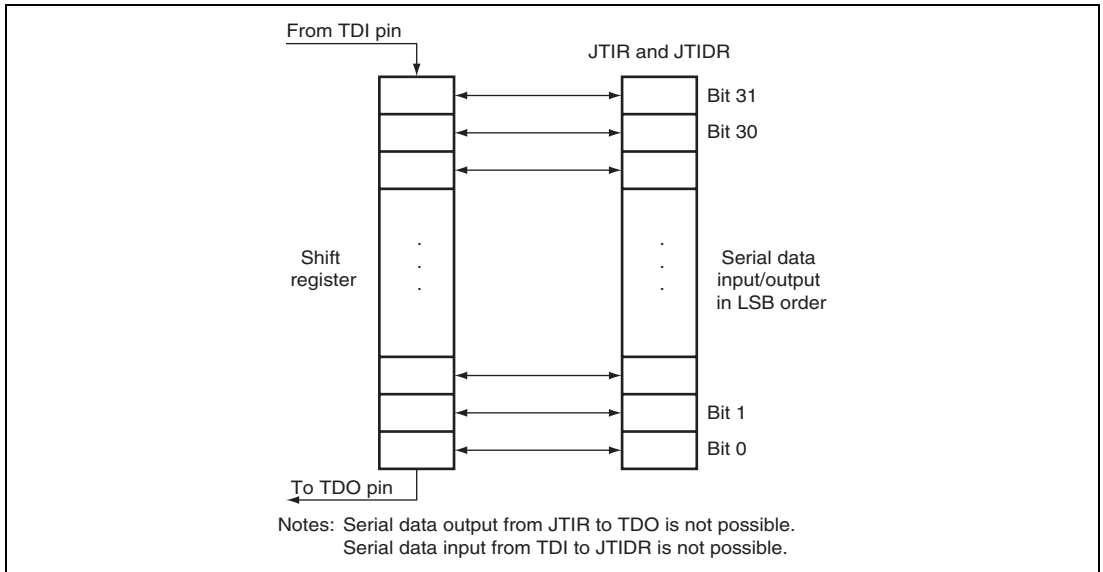

Figure 25.3 Serial Data Input/Output
1. In serial transfer, data are input or output in LSB order (see figure 25.3).